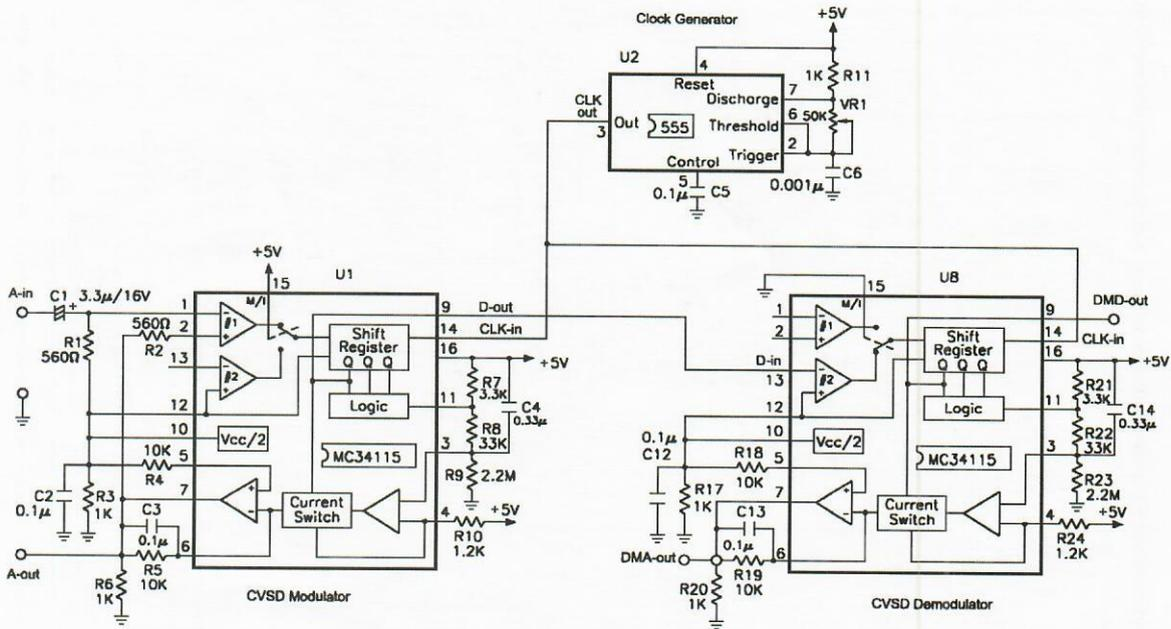

Figure 16-7 CVSD system
Figure 16-7 shows the CVSD system containing the clock generator U2, the CVSD modulator U1, and the CVSD demodulator U8. U1 and U8 use the same chip MC34115. When the M/\bar{I} pin is tied to 5V, the chip is used as a CVSD modulator. When the M/\bar{I} pin is tied to 0V, the chip is used as a CVSD demodulator. The analog input signal is applied to the modulator input terminal, A-in, and the CVSD modulated data presents on the D-out terminal. The CVSD modulated data is directly connected to the input of demodulator (D-in) and the reconstructed analog signal presents at the output of the demodulator (DMA-out). In addition, the CVSD system uses the same clock signal so that the demodulator is synchronous with the modulator.
1. Place jumpers in positions 2, 6, and 8 to complete CVSD system circuit shown in Figure 16-7.